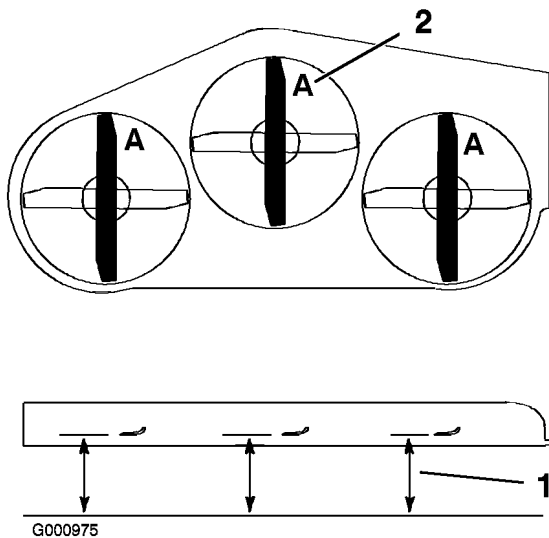

Figure 69
1. Rotate the blades until the ends face forward and backward (Figure 69). Measure from a level surface to the cutting edge, position **A**, of the blades (Figure 69). Note this dimension.